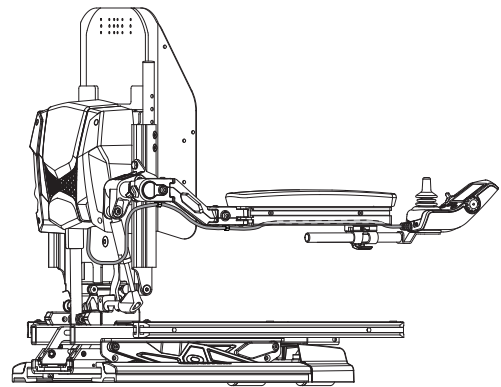

Figure 7. Controller Harness Routing on a TRU-Balance® 3
4. Install the controller and route the harness to the back of the power base. See figure 7, 8, 9, or 10.
6. Secure the controller harness to the armrest receiver with wire ties. **See figure 7, 8, 9, or 10.**